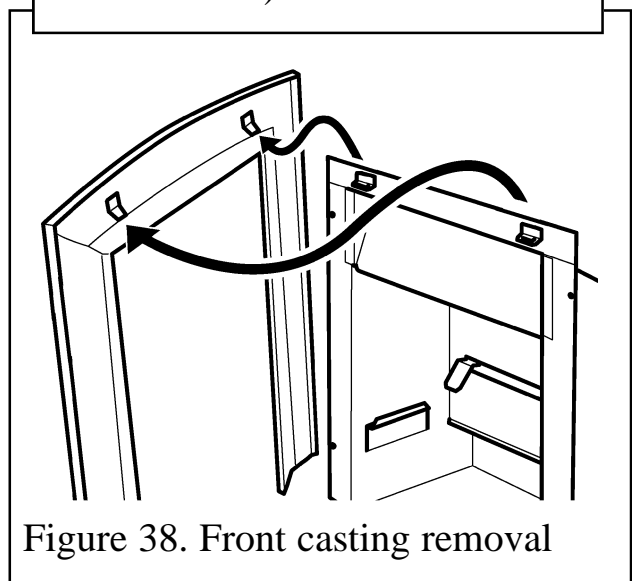

Figure 38. Front casting removal
3. Carefully lift the fascia upward to clear the upper retaining brackets on the hotbox - (See figure 38). Pull the fascia clear and place carefully aside.